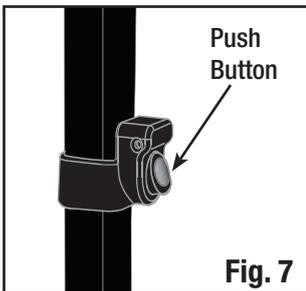

Fig. 7
- Lower the frame one post at a time by pressing the push button locks located on lower portion of posts. (Fig. 7)